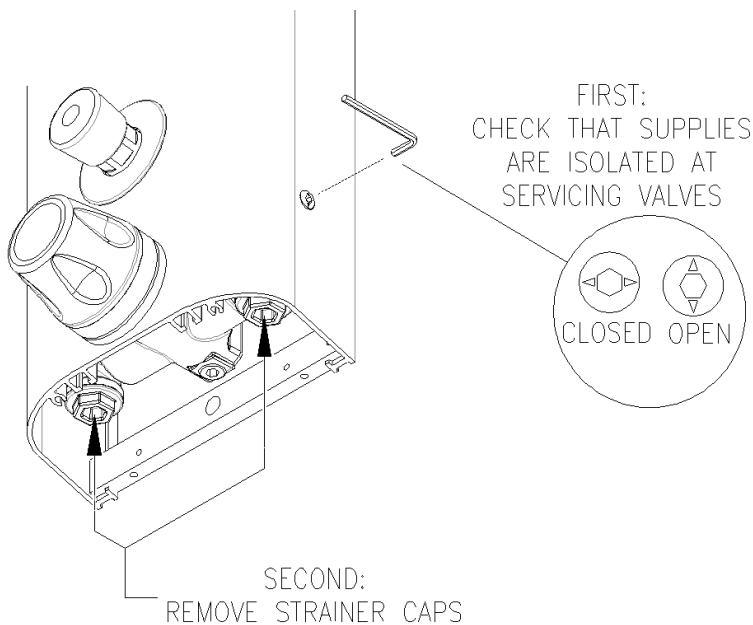

Fig.5
Flushing is required by Water Fittings Regulations 1999, schedule 2 G13.1, the Water Bylaws 2014 (Scotland) and BSEN 806, and is also essential for the function of the shower valve. The most common cause for complaint regarding the performance of any thermostatic shower or mixing valve is traced to dirt or debris in the mixing valve or check valves. See Figs. 5 and 6.
Access to the flushing points is gained from underneath the casing through the lower end cap. Isolate the water using the low-level servicing valves located on the side of the panel (Fig. 5) using a 4mm hex key. Remove the strainer cap with the strainer basket and screw in the flushing adapter. Place the end of the flushing hose in a drain or container and turn on the supply to flush AT FULL BORE until any pipework that has been worked on is cleared. After flushing, remove the flushing adapter and replace the strainer cap. Repeat for both hot and cold supplies. See Fig. 5 and 6.
2.5.1 Finally, check the thermal shut-off facility of the TSV-TFC by performing a Cold Isolation Test (sometimes colloquially called a “fail-safe” test) as follows. With the shower running full, close the cold (i.e., right side) servicing valve. [The Servicing Valve is closed when the arrows are in the horizontal position, and open when they are in the vertical position: see Fig. 5]. If there is any flow after 5 seconds, this must amount to no more than 120ml in 60 seconds of collecting. If there is more than this amount, find possible corrective actions in the “Maintenance” section below. If the Cold Isolation Test is satisfactory, restore the supply and note the final stabilised temperature in the commissioning log. This should be within 2°C of the original temperature, and must not exceed 43°C. Generally, the mixed water temperature should not rise by more than 2.9°C during this cold-water isolation test. Record the result of this on the attached commissioning sheet. Ensure that the button is pushed-in during the entirety of this test, or the results will be invalid.